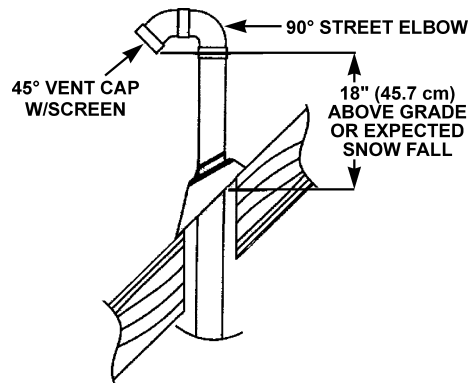

FIGURE 8.
- The vent exhaust outlet and air inlet terminals shall terminate at least 18" (45.7 cm) above the roof surface, see Figure 8.